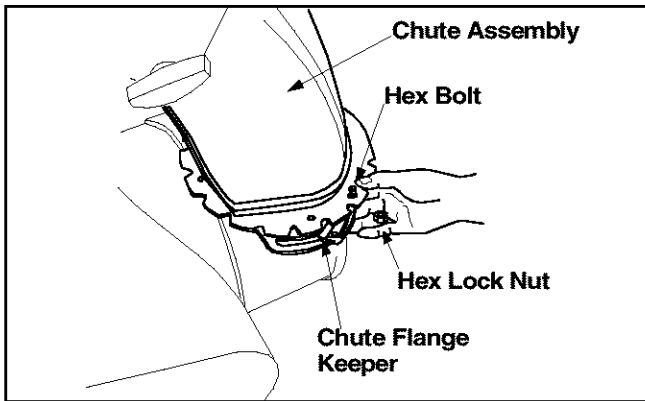

Figure 7
- Place chute flange keepers beneath lip of chute assembly, with the flat side of chute flange keeper facing downward. See Figure 7.